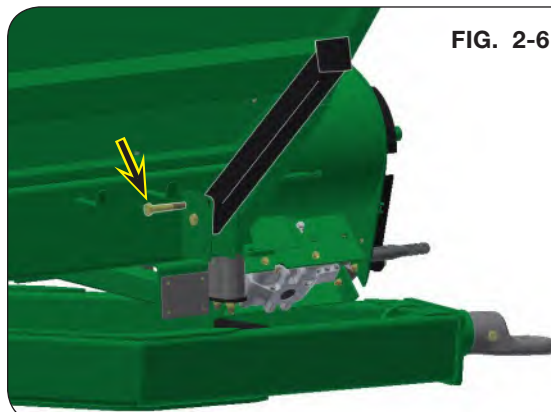
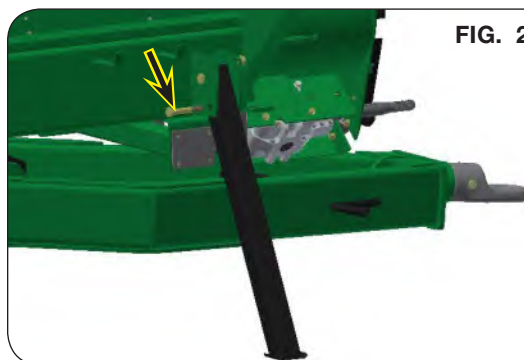

FIG. 2-6
FIG. 2-7
3. Remove and save the 1"-8UNC x 6" capscrew (9390-195) and 1"-8UNC elastic locknut (9398-026) (FIG. 2-6). Rotate the support stands (299580B) downward. Reinstall the 1"-8UNC x 6" capscrew (9390-195) and 1"-8UNC elastic locknut (9398-026) (FIG. 2-7). Repeat process on the opposite side of the grain cart.
4. Torque 1" hardware to 500 ft.-lbs. (FIG. 2-7)